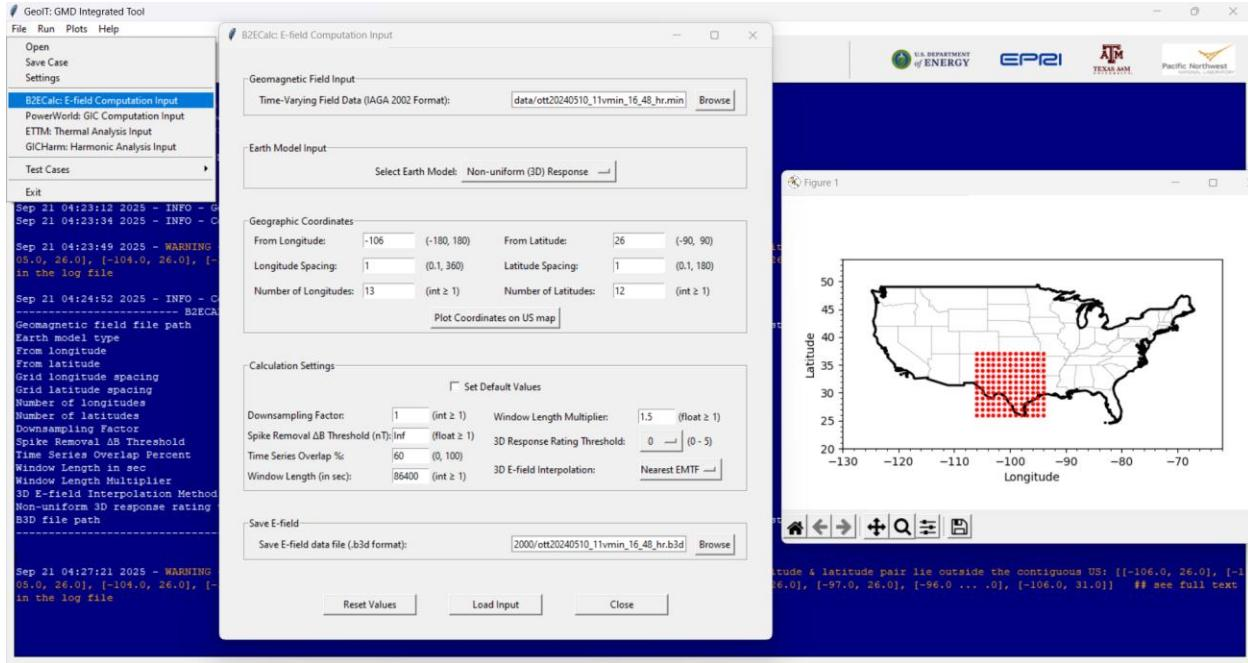

Figure 5. Geomagnetic Integrated Tool (GeoIT) Graphical User Interface Steps to Navigate File → B2ECalc: E-field Computation Input (Continued)
- **Calculation Settings**: These settings allow modification of the computation algorithm parameters (see Figure 5):